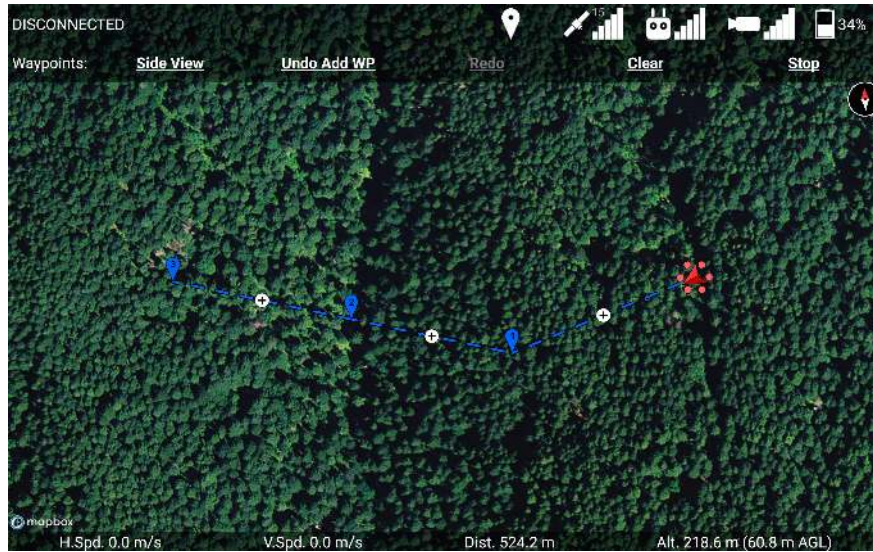

Figure 90: The path through waypoint 2 doesn't change heading, which allows you to move waypoint 2 left and right in the side view.
Because the newly-added waypoint 2 was added at the midpoint between waypoints 1 and 3, the path segments into and out of waypoint 2 are aligned in the same direction, as shown in Figure 90. The app doesn't require the waypoints to be perfectly aligned in order to move them left and right in the side view, so you'll be able to use this feature even if you drag the waypoints into a line with your finger in the top-down map view. Moving waypoint 2 left and right in the side view will move it closer to the previous waypoint (1) or closer to the following waypoint (3), but it will stay along the line that connects the two.